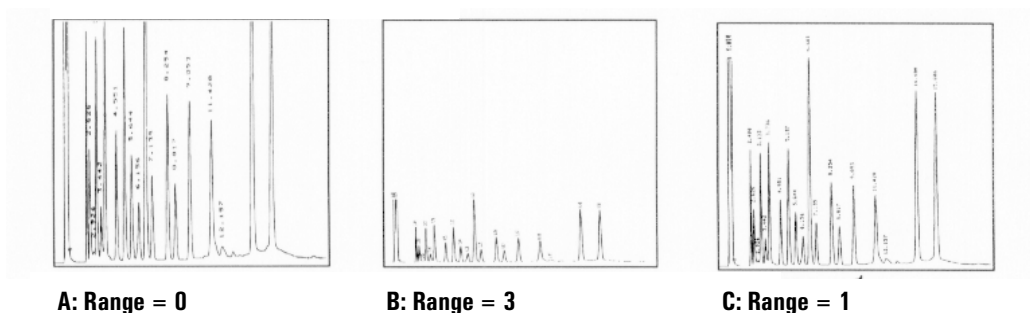

Figure 23 Range settings
If a chromatogram looks like A or B in Figure 23, the data needs to be scaled (as in C) so that all peaks are visible on the paper.
Valid setpoints are from 0 to 13 and represent 2^0 (1) to 2^{13} (8192). Changing a setpoint by 1 changes the width of the chromatogram by a factor of 2. The chromatograms in Figure 23 illustrate this. Use the smallest possible value to minimize integration error.